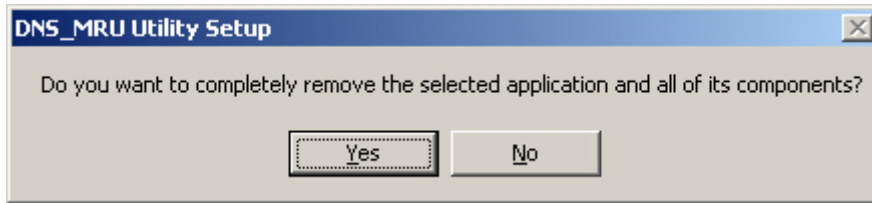

Figure 6-11. Click the button “Yes” to remove the software
**Step 5:** Click the button “Yes” to remove the software as shown in figure 6-11.